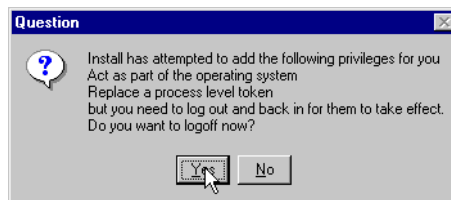

Figure 16. Logout message
6. The window, shown in Figure 16, instructs you to log out and back in. Logoff Windows and log in as Administrator. Execute D:\setup.exe again.